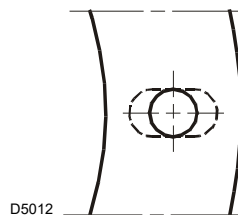

Fig. 8
- if necessary, widen the holes of the insulating gasket (Fig. 8), taking care not to damage it.